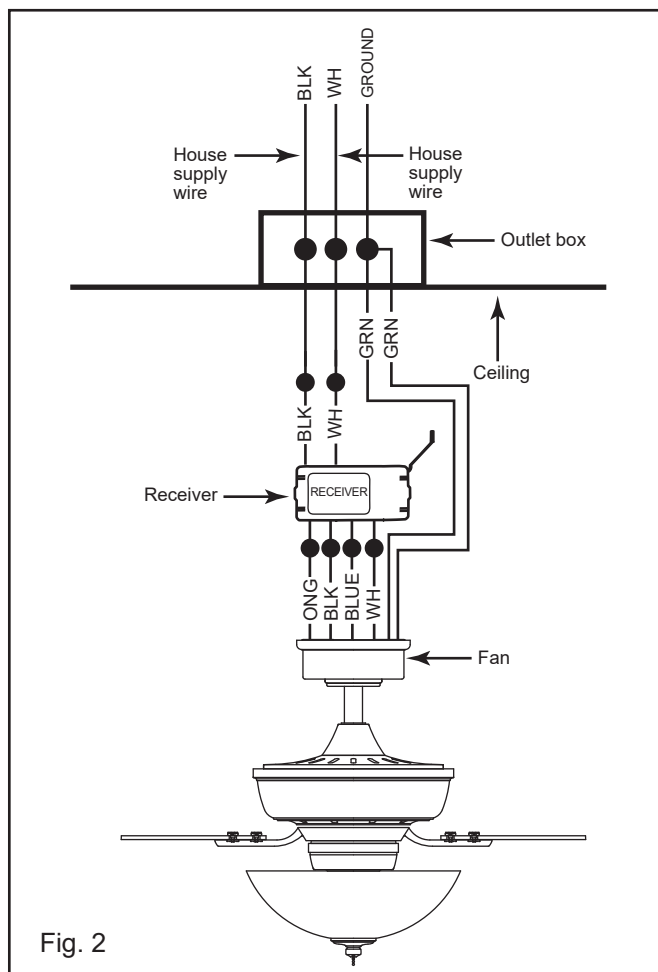

Fig. 2
4. Make the connections as follows, using the wire nuts supplied: (Fig. 2)